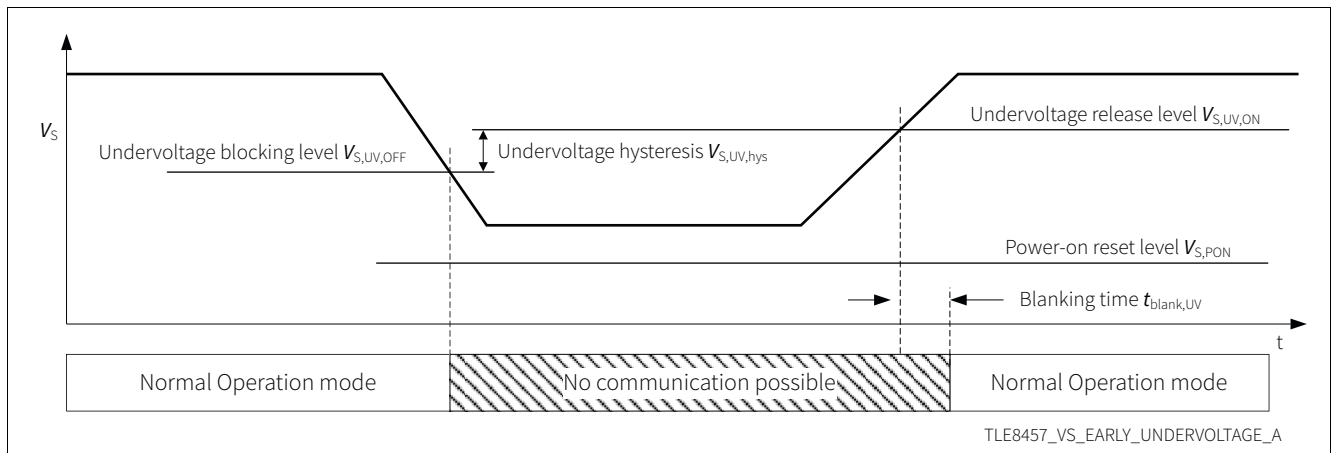

Figure 9 V_S early undervoltage detection
- In Normal Operation Mode the TLE8457 blocks the communication between the LIN bus and the microcontroller when detecting an early undervoltage event. The RxD output will be set “high”. However, no mode change will occur. After V_S rises above the undervoltage release level $V_{S,UV,REL}$, the bus communication interface will be released when the signal on the TxD input goes “high”. See Figure 9.